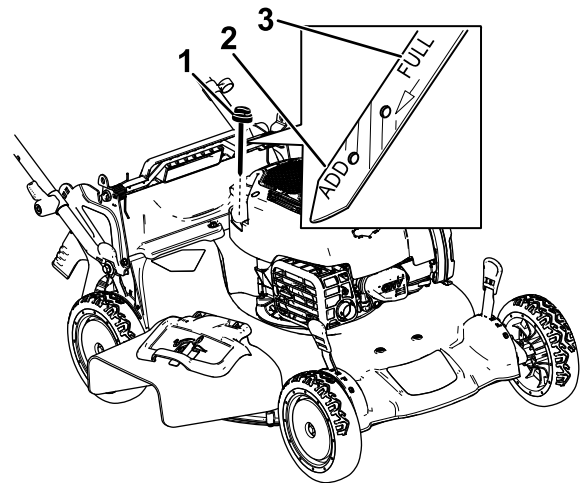

Figure 26
3. Remove the dipstick by rotating the cap counterclockwise and pulling it out (Figure 26).
10. Read the oil level on the dipstick (Figure 26).